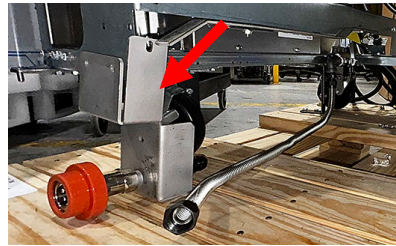

Figure 5
11. Position the bracket and flexline towards the front of the fryer (see Figure 5).